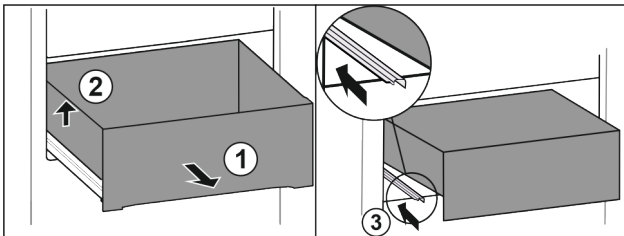

Fig. 72
- ▶ Pull out drawer as far as it will go. Fig. 72 (1)
- ▶ Lift drawer on the left. Fig. 72 (2)
- ▶ Insert left rail. Fig. 72 (3)